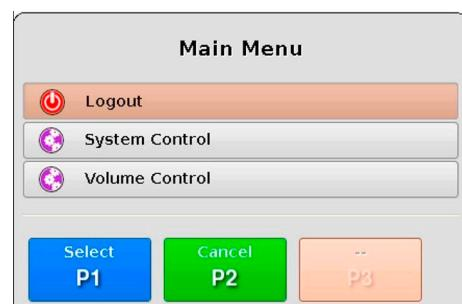

Fig. 23: Main menu - Logout
- ▷ Press the **M** key to open the main menu (see Fig. 23). Depending on the user login the menu items differ, some can be invisible.